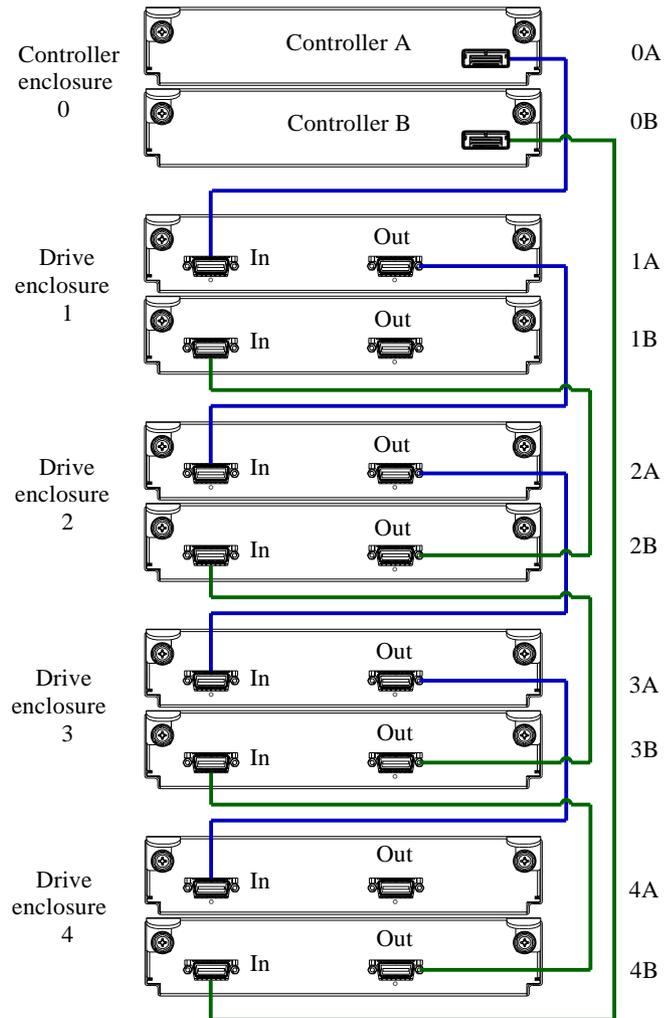

Figure 5 Fault-tolerant cabling between a dual-controller enclosure and four LFF drive enclosures
For example, Figure 5 on page 23 shows fault tolerant cabling wherein controller 0A is connected to expansion module 1A, with a chain of connections cascading down (blue). Controller 0B is connected to the lower expansion module (B) of the last drive enclosure in the chain, with connections moving in the opposite direction (green). Several cabling examples are provided on the following pages.
- You may need to order additional or longer cables when cabling a fault-tolerant configuration (see Figure 5 on page 23).